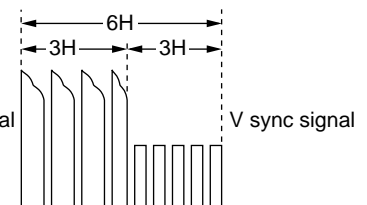

Figure 5.1.2
- 5) Then, set the sync slope to (+), and ascertain that the interval between the trigger point and the V sync signal has been set to 6H. (See Figure 5.1.2.)